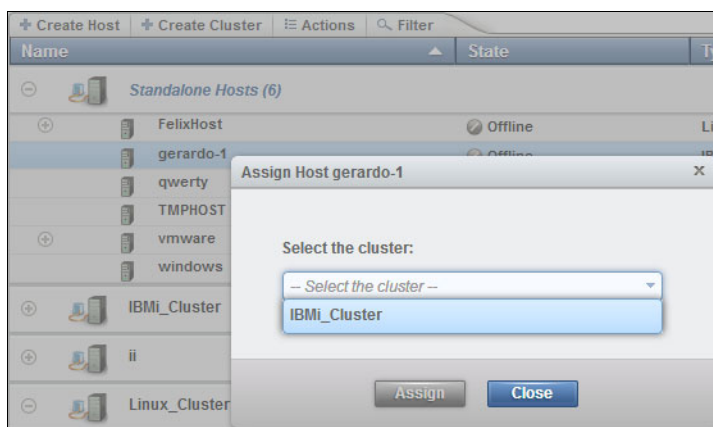

Figure 11-74 Assign Host to Cluster window
3. The Assign Host window opens as shown in Figure 11-74. From the drop-down list, select the cluster to add the host to.